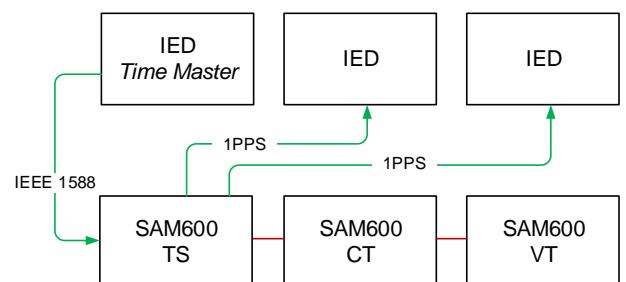

Figure 5. PPS synchronization
- *Synchronization by 1PPS* - A PPS from an external clock is used to synchronize a SAM600 system (see Figure 5) through SAM600-TS with an accuracy of 1µs in order to ensure synchronous sampling. The SAM600-TS module replicates the 1PPS information to the 1PPS outputs and synchronizes the SAM600 system internally through IEEE 1588 against the 1PPS input.